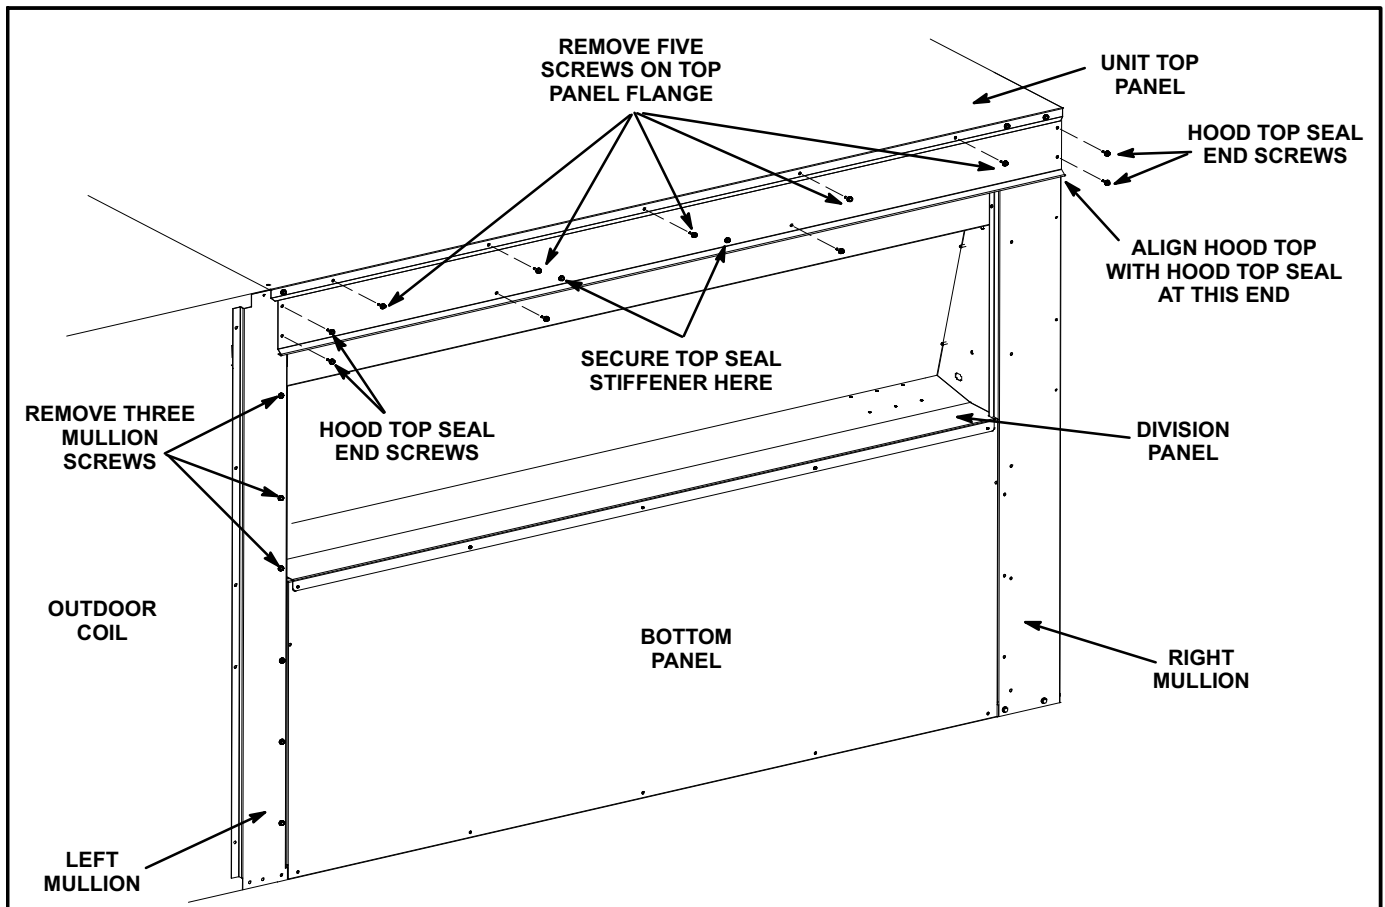

FIGURE 11
- 3- Slide hood top seal under unit cabinet top and secure using five retained top screws. Install, but do not tighten, the two screws on each end of the hood to seal. Refer to figure 11.
- 4- Remove and retain top three screws on the left mullion of the outdoor air section. See figure 11.